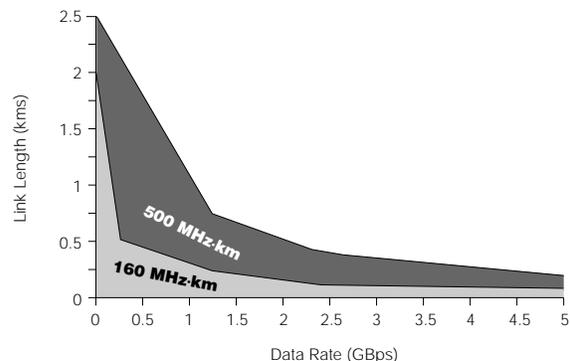

Figure 2: Bandwidth, Data Rate & Link Length
Since most protocols specify the transmitter and receiver rise times, we can simplify this relationship. A simplified model can determine link length from fiber bandwidth and protocol speed. This simplified relationship is shown in Figure 2.
*The second step* is to determine the fiber type that meets the required system bandwidth and standards requirements. Worst-case bandwidth is determined based on worst-case link lengths and protocol speeds. For example, if the worst-case protocol is Gigabit Ethernet (1000Base-SX or LX) at a 500 meter link length, then 50 µm fiber would be the best choice for an “SX” solution and 50 µm or 62.5 µm can be used for “LX” solutions. This result is based on the fact that the Gigabit Ethernet standard specifies both 50 µm and 62.5 µm for 500 meter “LX” applications and only 50 µm fiber for 500 meter “SX” applications. This finding is further confirmed by finding that gigabit speeds (in Figure 2) require a bandwidth of greater than 400 MHz•km. And since both fibers have 500 MHz•km in the “LX” operating window, either can be used. 50 µm has 500 MHz•km in the “SX” window which also allows it to be used with 850 nm sources.